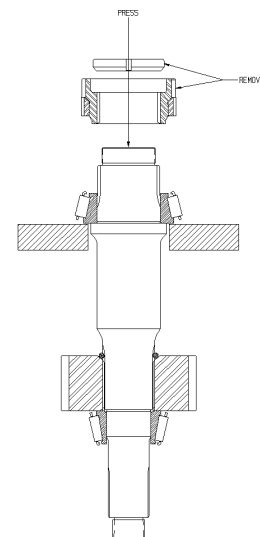

Fig. 29
3. Remove front support bearing as shown. See Fig. 29.